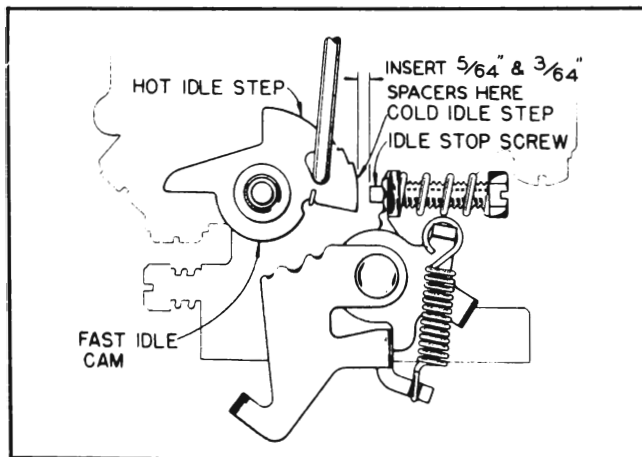

Figure 10-39—Spacer Between Idle Stop Screw and Fast Idle Cam
4. Place  $\frac{5}{64}$ " spacer between idle stop screw and fast idle cam while holding fast idle cam in extreme cold idle position. Close throttle so that spacer will hold cam in this position. See figure 10-39. Turn ignition on, hold spacer and open throttle. *Engine should not crank.*
5. Still holding throttle open, place  $\frac{3}{64}$ " spacer between idle stop screw and fast idle cam while holding fast idle cam in extreme cold idle position. Close throttle so that spacer will hold cam in this position (fig. 10-39) and again open throttle with ignition on. *Engine should crank.*